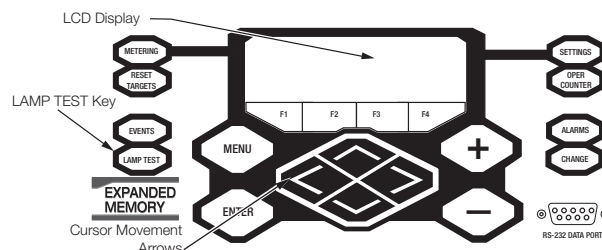

Figure 38. Lamp test button, LCD display, and cursor movement arrows
1. Verify operating status of all indicator lights by pressing and holding the LAMP TEST key for two seconds on the programming panel (**Figure 38**).
Note: Scroll through the LCD display messages by pressing the \blacktriangle and \blacktriangledown cursor movement arrows underneath the LCD display on the programming panel (**Figure 38**).